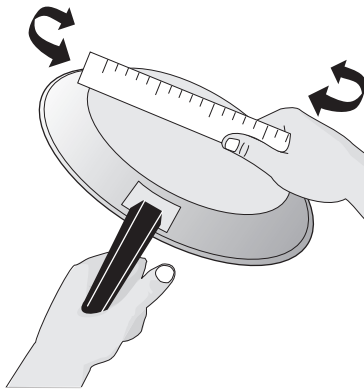
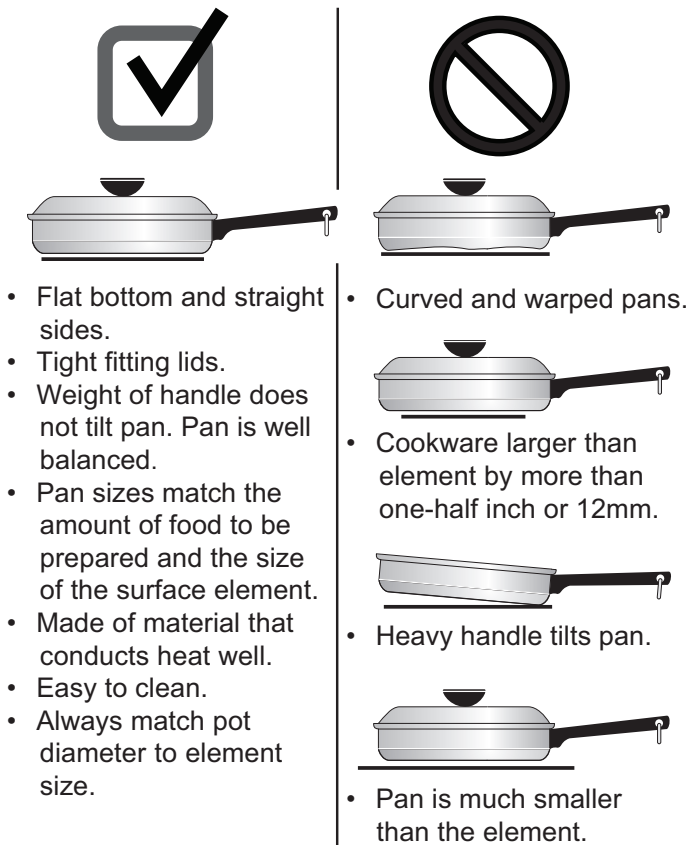

Figure 1: Testing cookware
Figure 2: Proper cookware
The size and type of cookware used will influence the heat setting needed for best cooking results. Be sure to follow the recommendations for using proper cookware as illustrated in “Figure 1: Testing cookware” and “Figure 2: Proper cookware”.
Check for flatness by rotating a ruler across the bottom of the cookware (see “Figure 1: Testing cookware”). Cookware should have flat bottoms that make good contact with the entire surface of the heating element.
2. Push in and turn the surface control knob in either direction (Figure 1) to the desired setting (refer to the “Suggested radiant surface element settings” in Table 1).
Start most cooking operations on a higher setting and then turn to a lower setting to finish cooking. The surface control knobs do not have to be set exactly on a particular spot. Use the graphics provided as a guide and adjust the control knob as needed (see Figure 1).